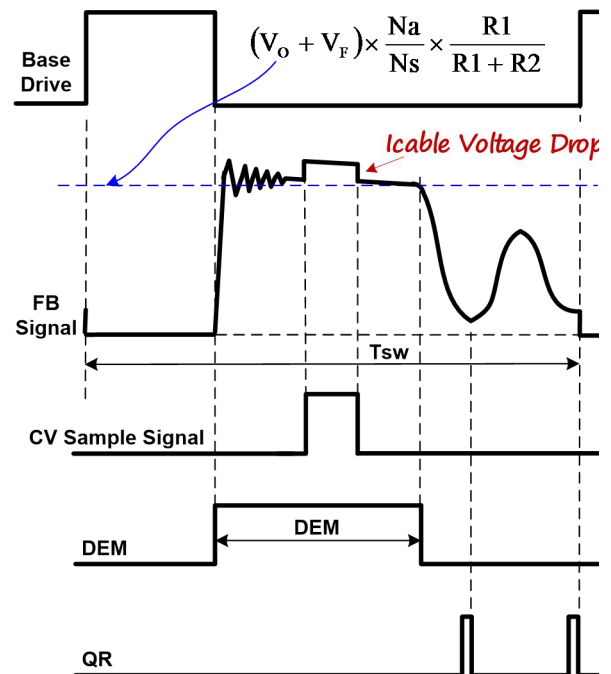

Fig.2
In Primary Side Regulation (PSR) control, the output voltage is sensed on the auxiliary winding during the transfer of transformer energy to the secondary. Fig.2 illustrates the timing waveform of CV sampling signal, demagnetization signal (DEM) and quasi-resonant (QR) trigger signal in DP2525D. When the CV sampling process is over, the internal sample/hold (S&H) circuit captures the error signal and amplifies it through the internal Error Amplifier (EA). The output of EA is sent to the Quasi Resonant PSR CV Modulator (QR-CVM) for CV regulation. A valley is selected to trigger new PWM cycle by the output of the QR-CVM block, which is determined by the load. The internal reference voltage for EA is trimmed to 2V with high accuracy.
During the CV sampling process, an internal variable current source is flowing to FB pin for Cable Drop Compensation (CDC). Thus, there is a step at FB pin in the transformer demagnetization process, as shown in Fig.2. Fig.2 also illustrates the equation for